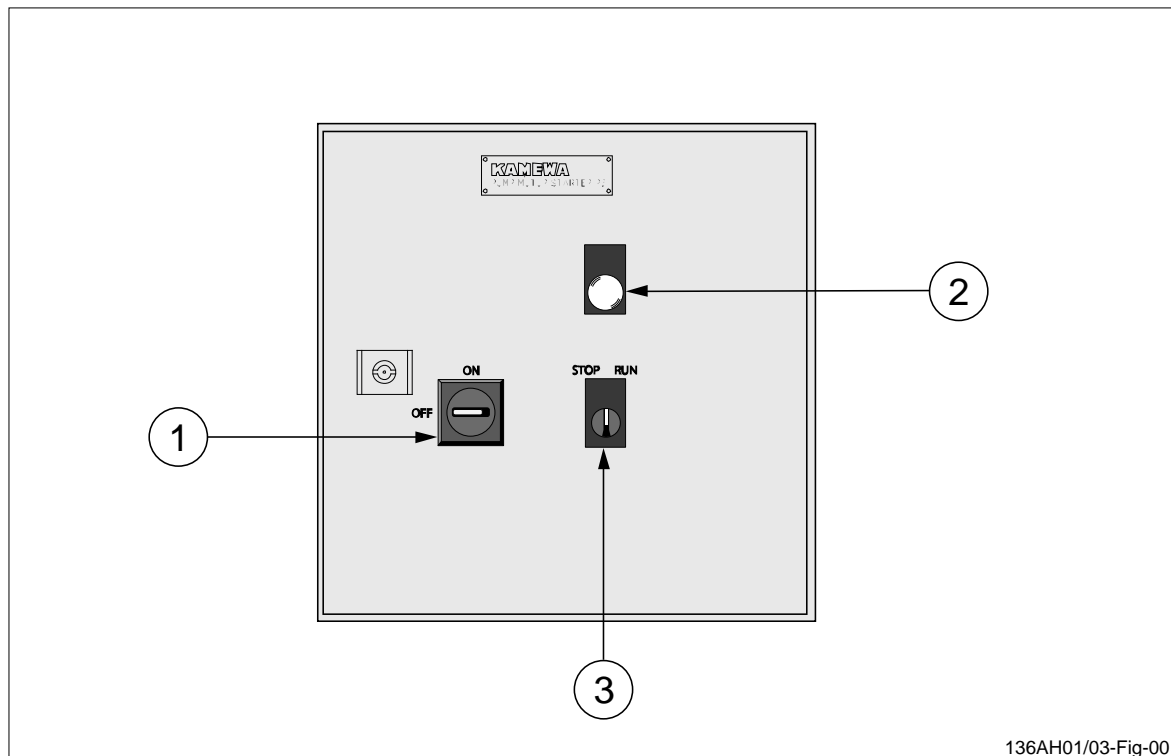

Figure 7 Front view of pump motor starter cabinet P3.
The pump motor starter cabinet includes a stop/run switch S1 (see position 3, in figure 7).
- The pump unit P3 runs continuously if the stop/run switch S1 (pos 3, figure 7) is turned to RUN position.
- The pump unit P3 stops if the stop/run switch S1 (pos 3, figure 7) is turned to STOP position.